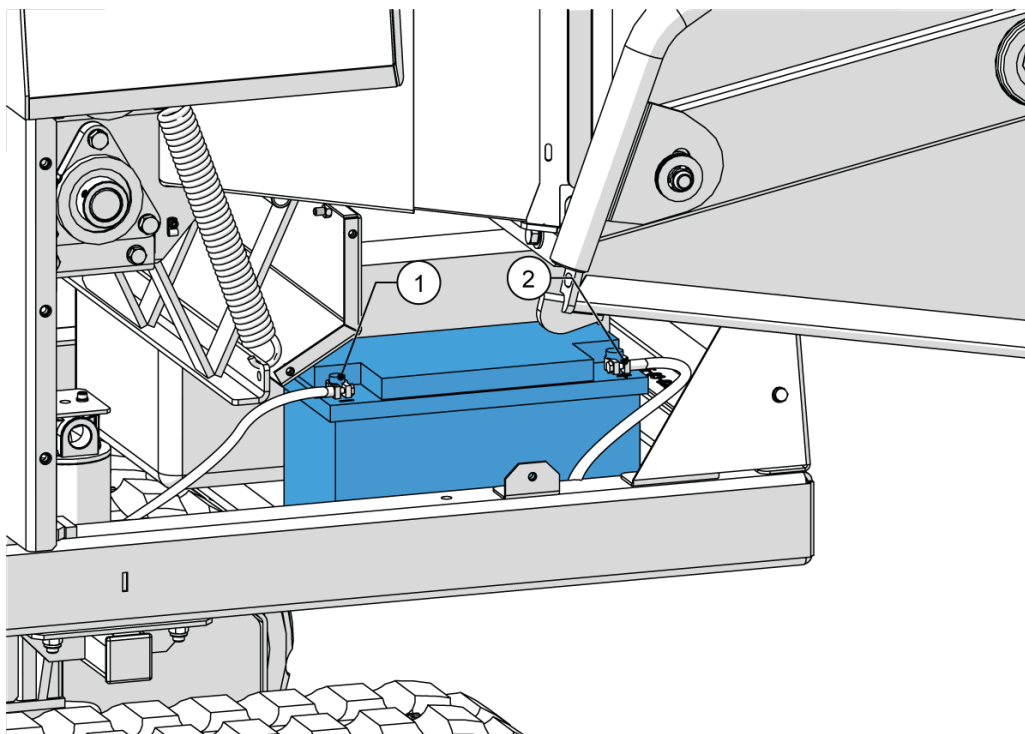

Figure 66 - Battery terminals
5. Remove the negative lead at the battery (1, Figure 66), then the positive lead (2, Figure 66).
11. Connect the positive lead to the battery (2, Figure 66), then the negative lead (1, Figure 66).